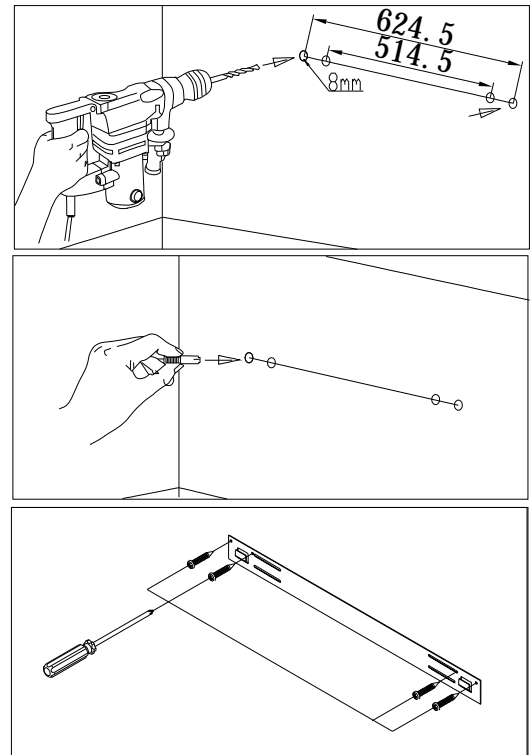

Fig 4
5. Referring to Fig. 4, hang fireplace to hanger; .